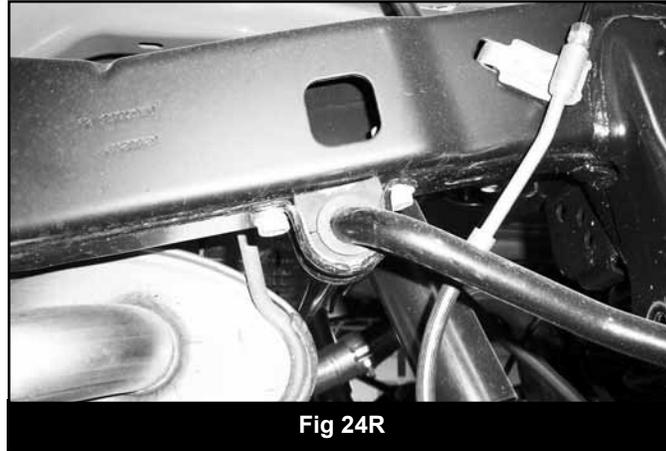

Fig 24R
45. Disconnect the sway bar from the frame and remove it from the vehicle. Retain the sway bar, bushings, and hardware (Fig 24R).